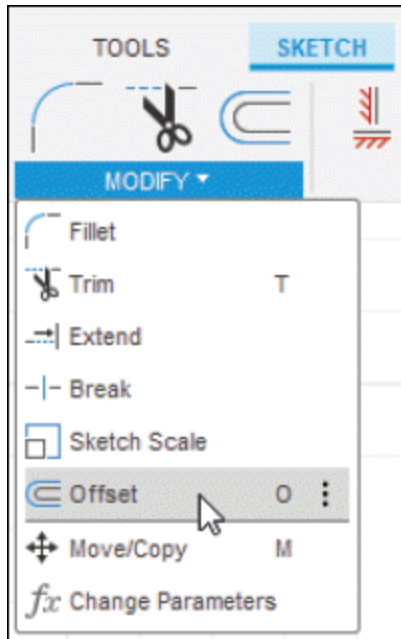

Figure-87. Offset tool
- Click on **Offset** tool of **MODIFY** drop-down from **Toolbar**; refer to Figure-87. The **OFFSET** dialog box will be